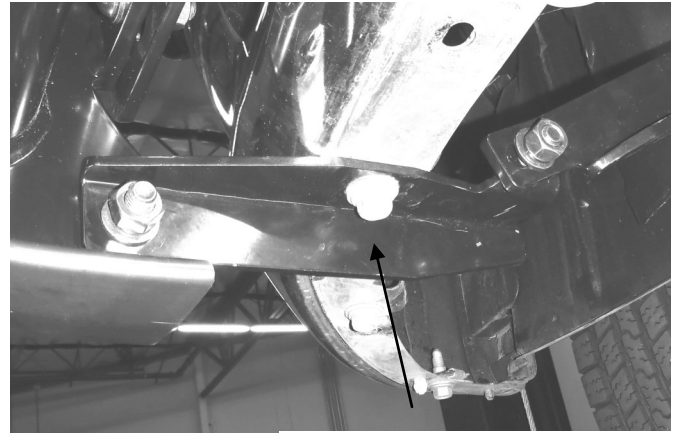

Fig 6
5. Remove the factory M10 flange bolt from the bottom of the bumper located beneath the area of the tow hook pocket. Use the factory bolt to loosely attach the lower mounting bracket (Figure 6).